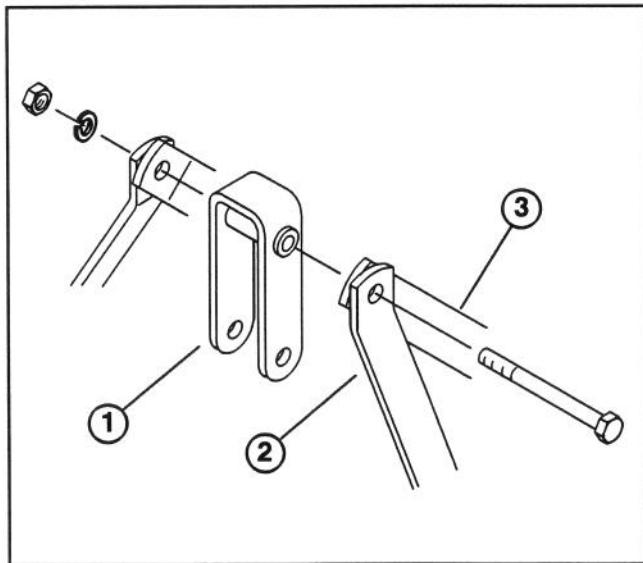

Figure 9
3. Remove capscrew, lockwasher and hex nut securing upper pivoting hitch and spacer between upper hitch brackets and braces (Fig. 9).